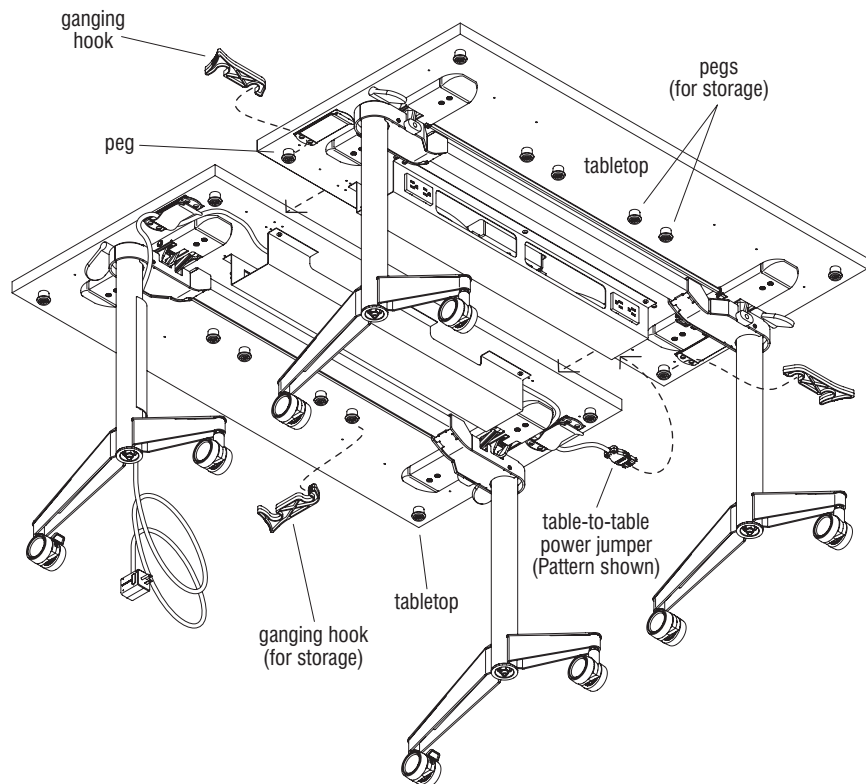

Figure 5 - (underside view)
1. Move the two tables to be ganged together back-to-back, such that the two pair of ganging pegs face each other. As illustrated, position and snap the two ganging hooks onto their respective ganging pegs, then swing the hooks to the opposite peg to securely gang tables together (Figure 5 & Detail C).
2. Position and snap any extra pegs onto the pegs for storage on the front user side of the table. For ganging hook storage when tables are not paired, disconnect the table edge ganging hooks and move them to the pegs mounted to the front user side of the table (Figure 5).
3. Once mechanically joined together securely, tables with Pattern electrical systems may now have their table-to-table connections made. If the tables are using Pattern, route the Pattern table-to-table power jumper from one table over to the second. Repeat step 3 to make the remaining power connections for the remaining tables (Figure 5).
4. Strap in the desired cords using the installed Velcro wire manager (Figure 5).